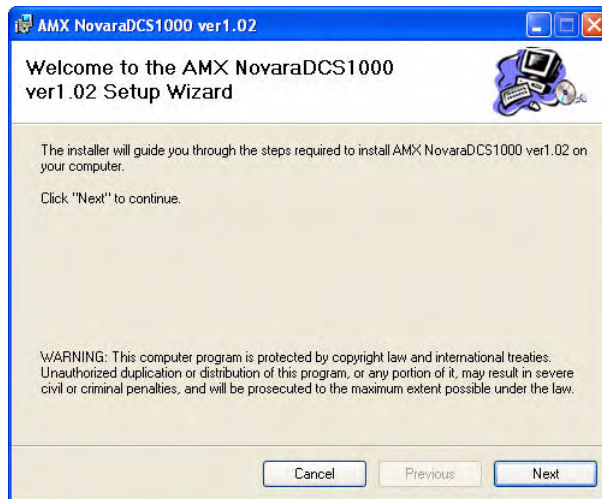

FIG. 12 AMX DSC1000 Setup Wizard
2. Double-click the installation file to launch the *AMX DSC1000 Setup Wizard* (FIG. 12). Click **Next** to proceed.